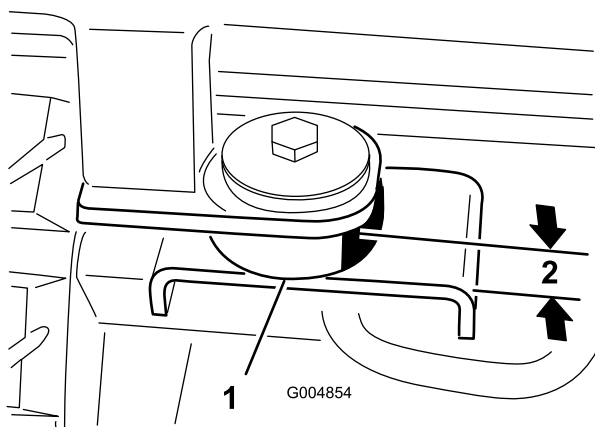

Figure 24
11. At the rear mounting points, secure the cab to the machine with a bolt (1/2 x 3 inches), steel washer (1/2 x 2-1/2 inches), rubber washer (1/2 x 2-1/2 inches) and nut (1/2 inch) (Figure 24). Tighten all four cab mount bolts until the rubber mounts are compressed to a thickness of 7/8 inch (2.2 cm).